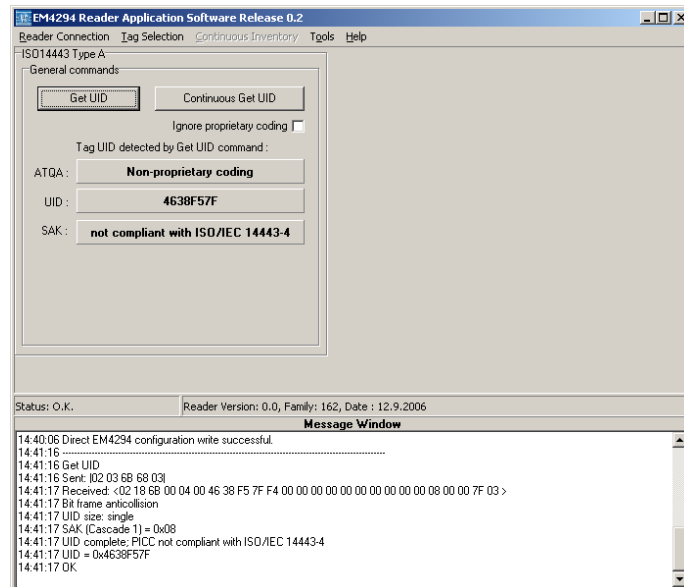

Figure 17 ISO14443 Type A Communication Frame
1. Tag Selection menu, select -> ISO14443 Type A menu (refer to Figure 17 ISO14443 Type A Communication Frame)